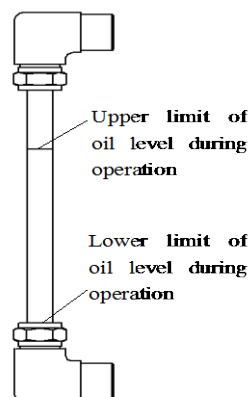

Fig. 3-1 Oil Level Indications
- f. After the operation becomes stable, check the oil level. If the oil level is lower than or close to the 'lower limit of oil level during operation' in Fig. 3-1, then shutdown the